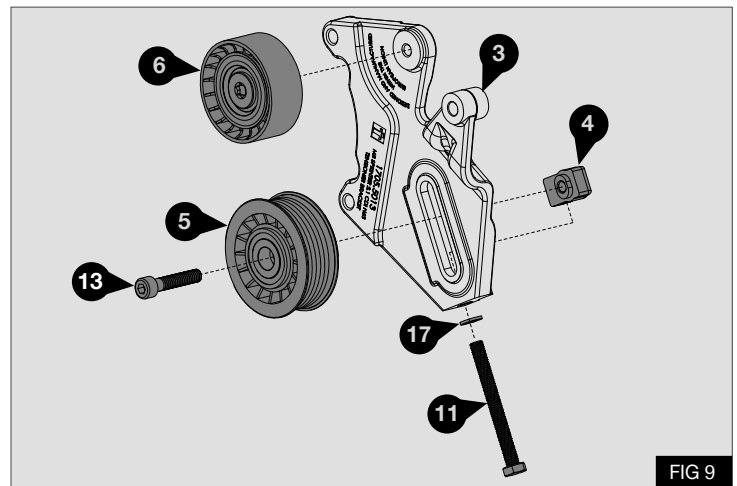

FIG 9
1. Mount the idle pulley (6) previously removed onto the tensioner bracket (3) in the position shown - Fig 9
2. Torque the idle pulley securing bolt (6) to 25Nm / 18lbf using a calibrated torque wrench.
3. Mount the supplied idle pulley (5) on to the tensioner bracket (3) using bolt (13), draw bolt mounting block (4), washer (17) and M8 x 80 bolt (11) in the position shown. Leaving the idle pulley tensioner assembly loose - Fig 9